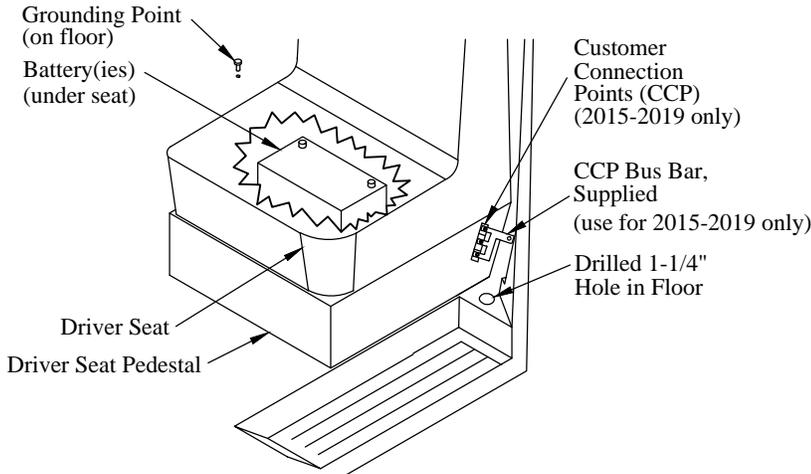

Figure 17: Customer Connection Point location.
4. **Drill** and **Deburr** a 1-1/4" hole in the floor next to the driver seat in the location shown (Figure 17).
10. Cut the negative(-) lead to the length required to reach a vehicle ground point on the floor between the front seats (Figure 17).
- 19. **Remove** the plastic cover from the CCP on the driver seat pedestal (Figure 17).
- 20. **Install** the supplied bus bar on the CCP studs using three (3) supplied M5 nuts and star washers.